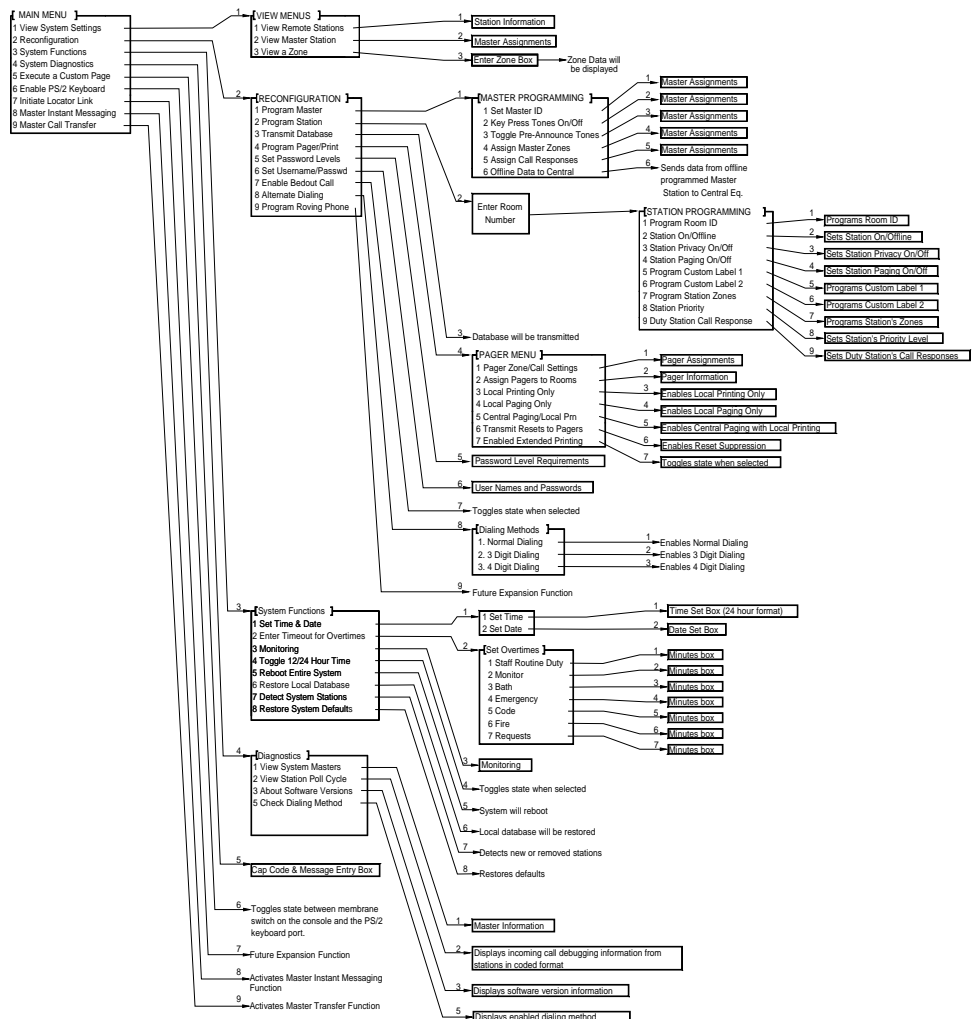

Figure 17 – Menu Map. **NOTE:** There is a larger copy of this drawing before the **Programming Sheets**.
A menu tree is provided in Figure 17 to show all of the available menus, functions and how they interrelate. It should be used as a reference for each of the menus and functions that are described in this section. Each item will be listed by its menu or function name and will be followed by a description. All buttons referenced are located on the master station. Certain functions will require the use of additional control keys, which will be indicated on screen at the bottom of display screen.
**0 MSTR/TI Fault Tone Off** – This function is only displayed if an NC304/NC304LCD Master Station or NC364A Telephone Interface is in a fault mode. (Therefore, this feature is not shown in Figure 17 – Menu Map.) Selecting this